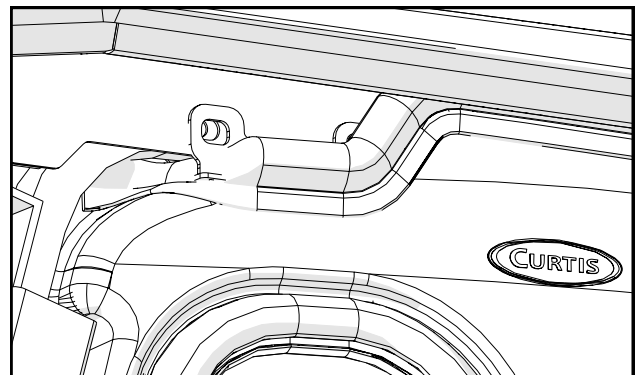

Fig. 3.1 (top front mount - left side)
**3.1** Per figure 3.1, with assistance, install the left side frame assembly by inserting the top front corner onto the vehicle so the mounting tabs are approximately where shown. Position the top front of the side frame assembly so the slotted bracket is up against the outside surface of the factory roof mounting area. Make sure the leading edge of the plastic front panel is inside the roof support tube. *Note: the side frame floorboard is to sit on top of the vehicle floor mat.*